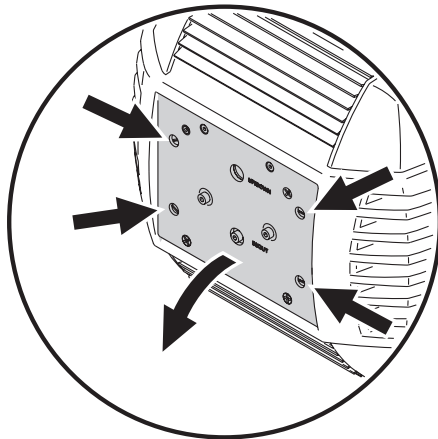

Figure 2: Lamp access
2. Release the 4 quarter-turn fasteners marked with arrows on the lamp access plate, as shown in Figure 2. Pull the lamp assembly straight back as far as it goes and let it rest in place.